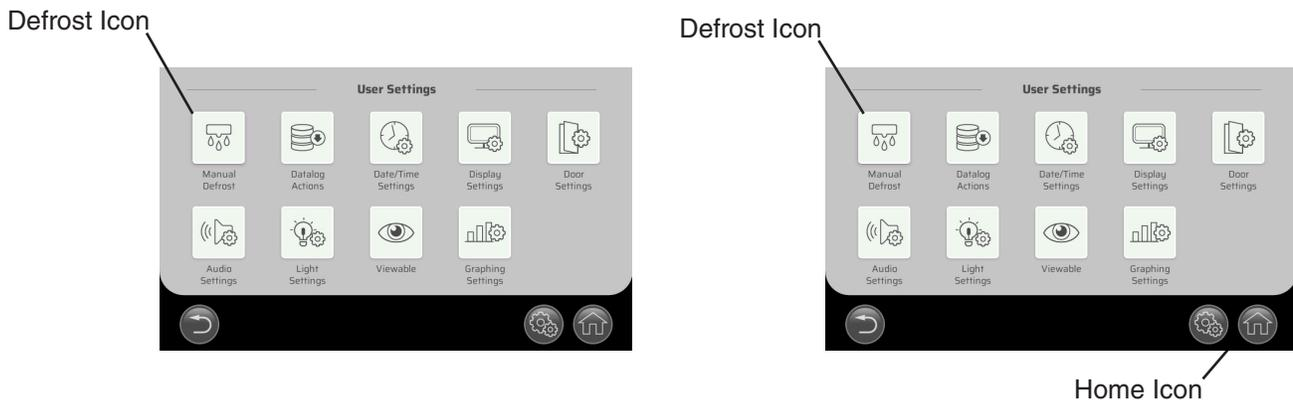

Fig. 18
2) Press the Manual Defrost icon. See Fig. 18. Defrost icon turns red and defrost initiates.